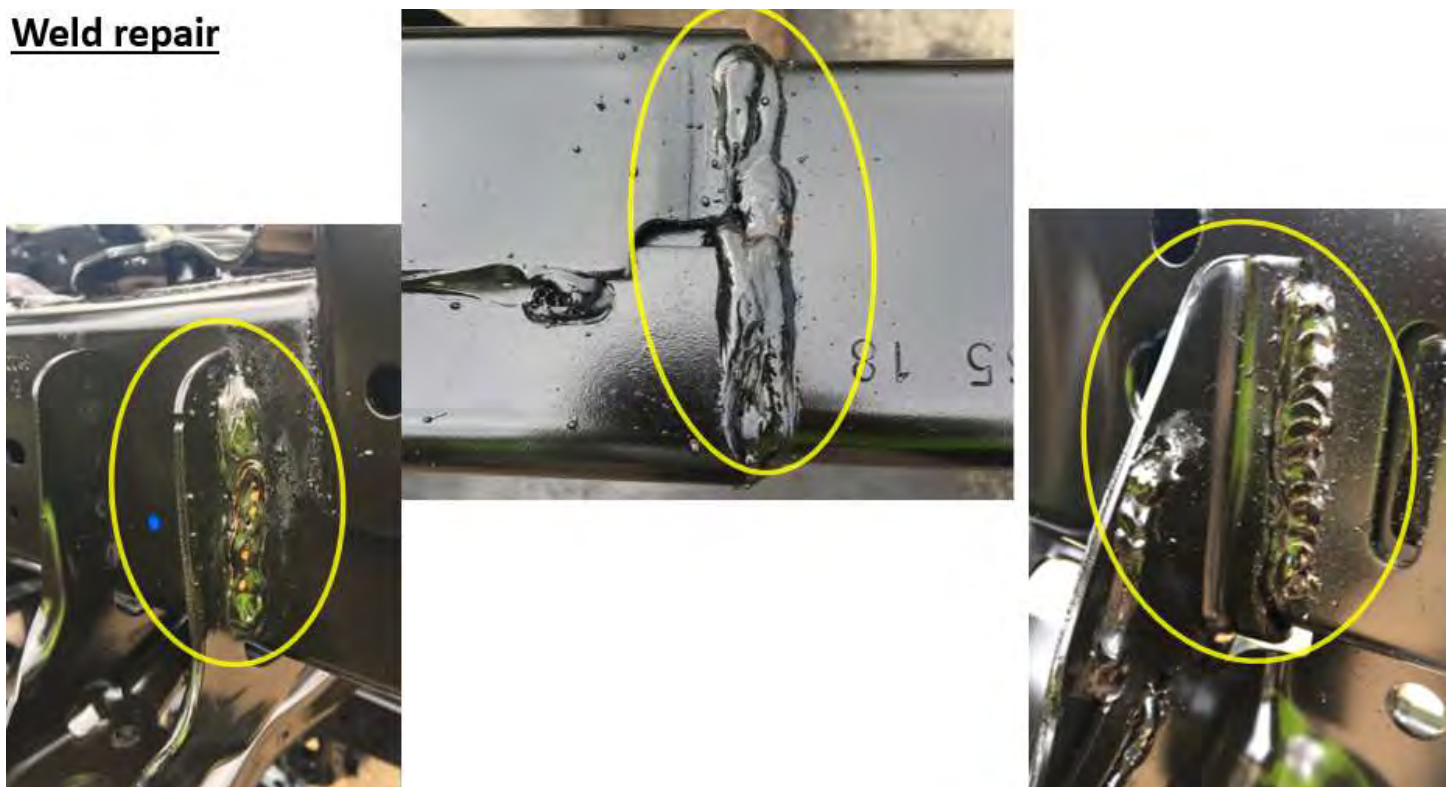

Fig 3 Reprocessed weld.
3. Reprocessed weld repair (performed at frame production plant). Applied usually adjacent to an original weld (fig 3) . This is acceptable and inherent to high – volume MIG welding processes. The surface corrosion at the reprocess area can be paint repaired if the owner is concerned using the refinishing step in item 1.